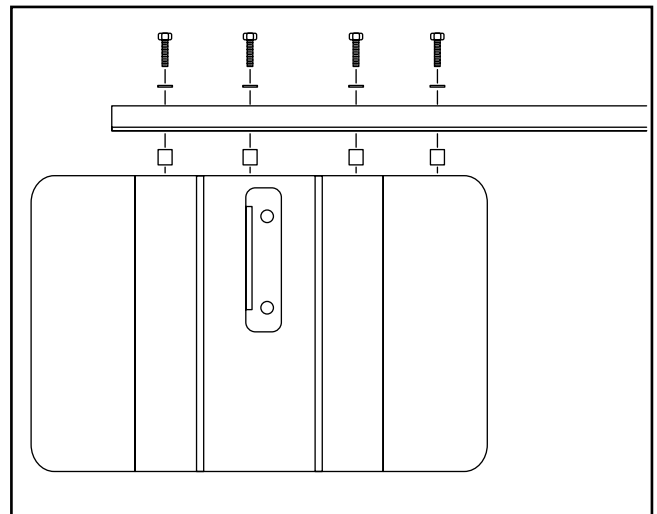

Figure 8. Rear rail attachment procedure.
2. Attach the rear rail to the table top using the spacers, hex bolts and lock washers supplied. See **Figure 8**. Using a combination square set at $1\frac{5}{32}$ " , place at the edge of the table, and adjust the rail so it is consistently $1\frac{5}{32}$ " below the top of the table.